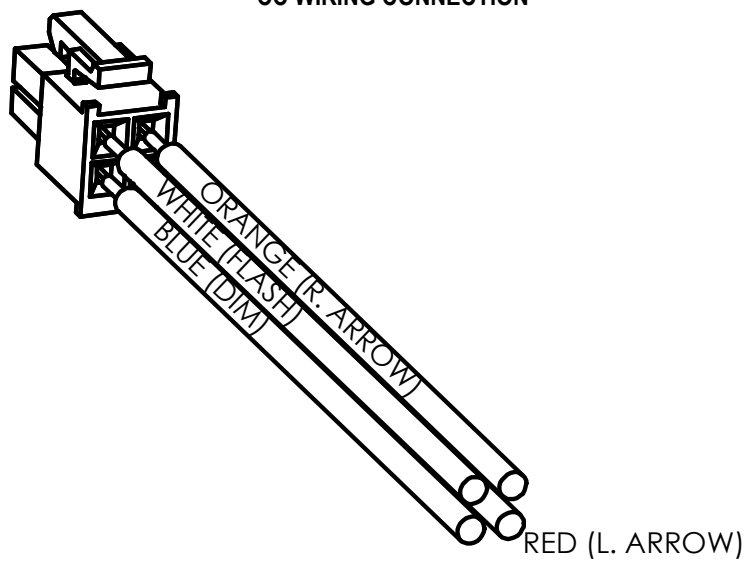

Figure 8
The Z3 Siren can connect directly to any Code 3 Centrally Controlled (CC) ArrowStik and some non-Code3 CC ArrowStiks using Code 3 harness P/N T56629 (see Figure 8). This harness is found in the Harness & Cable Bag P/N T56641. Refer to the wiring diagram on page 15.